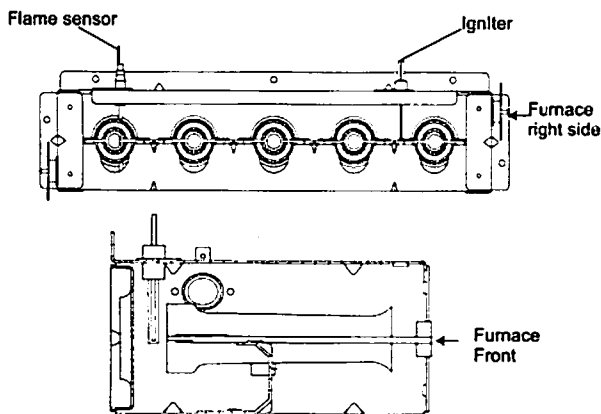

Fig. 2 - Igniter Position
1. Reinstall the gas manifold assembly to the burner box with the four (4) fasteners, which were removed earlier.
2. After installing the burner, inspect the alignment of the burners with the heat exchanger tubes. The center of the burners should be aligned with the center of the tubes. The igniter and flame sensor position refer to Fig 2